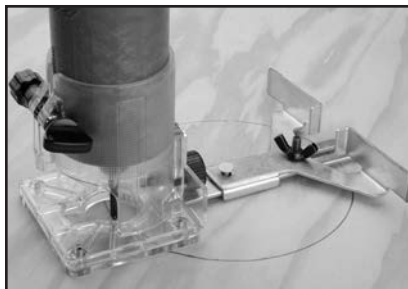

Figure 15. Example of guide setup for cutting circles.
1. Set up straight guide with guide plate facing up (see **Figure 15**).